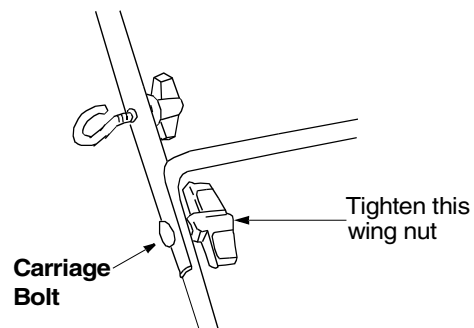

Figure 4
- Tighten wing nuts on each side of the handle making sure that the carriage bolts are seated properly into the handle. See Figure 4.